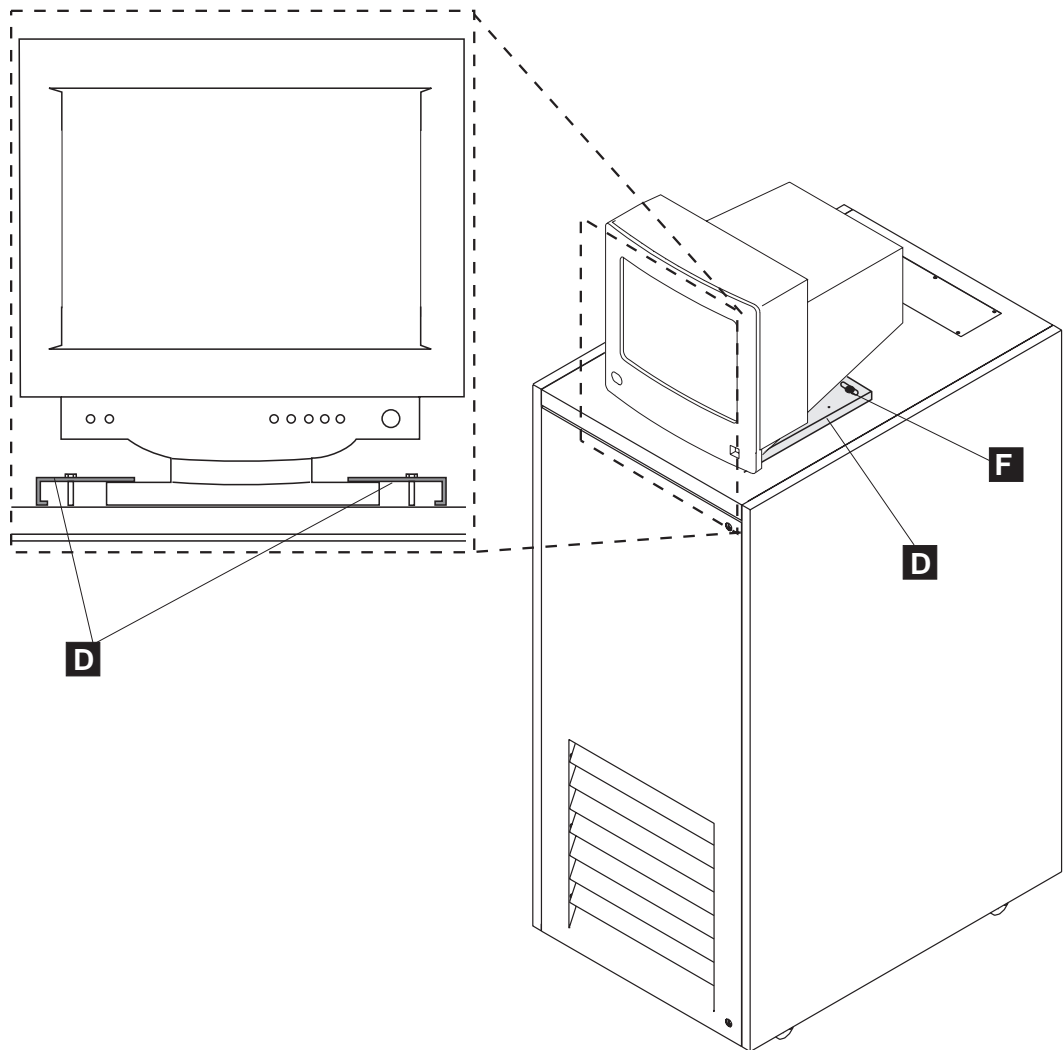

Figure 1-29. Display Installation on top of 29 U Rack
- b. ____ Slide the pedestal display under the safety retainers (see Figure 1-29 on page 1-24).